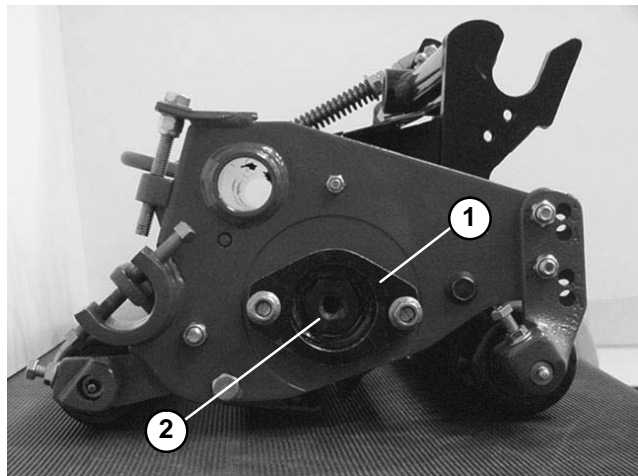

Figure 39
B. Using a large socket wrench, remove the reel bearing adjustment nut (Fig. 39). Tap on the head of the hex head bolt on the end of the reel shaft, with a small hammer, until end play of the reel can be felt.
4. Using a plastic headed hammer, rotate bearing housing slightly, install bearing housing bolts from outside housing, turn bolts alternately against side plate. Use this method to remove bearing housing (Fig. 39).